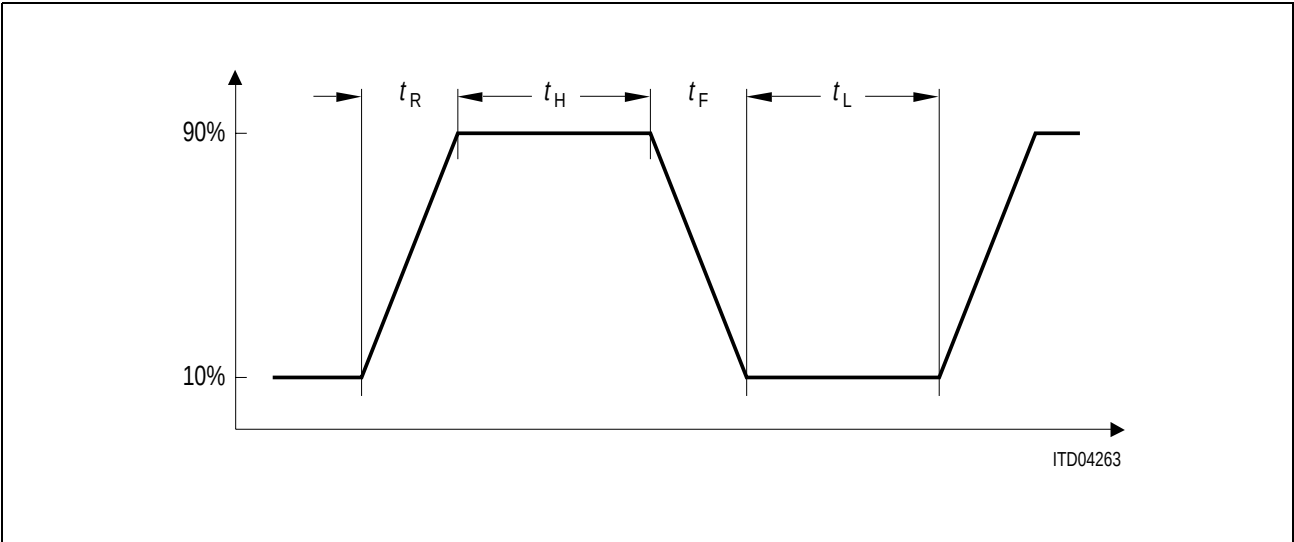

Figure 120    Dynamic Characteristics of the Duty Cycle
- Duty ratio see Figure 120, page 282